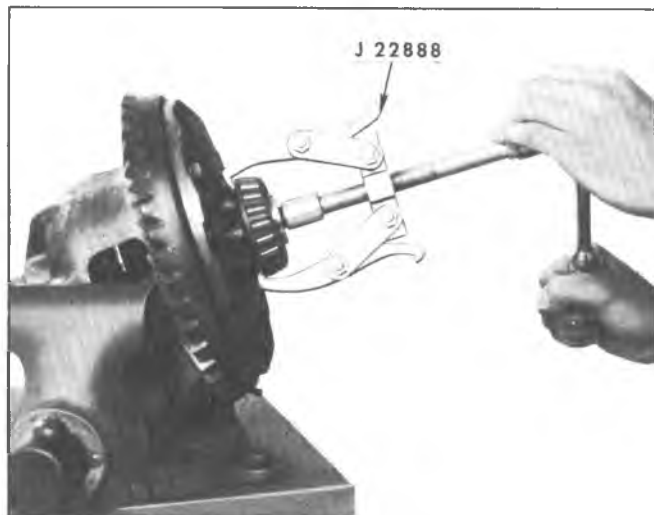

Fig. 4—Removing Side Bearings
2. Remove bearing cones from case, using puller J-22888 and correct plug (fig. 4) and remove shims from case. Identify all parts so they may be reassembled in their original location.